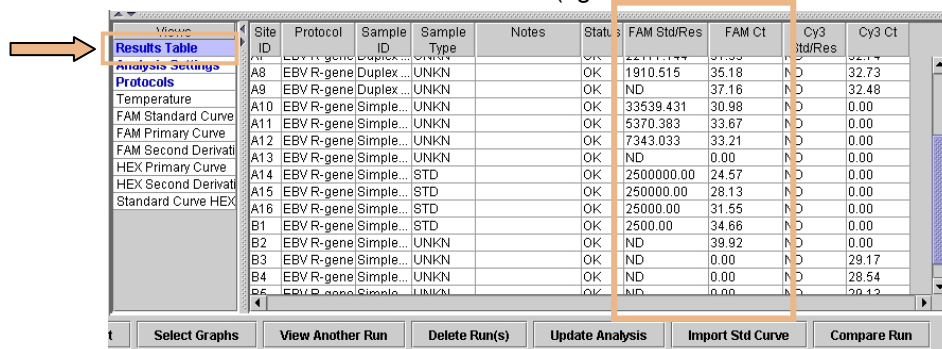

Fig.7
- At the end of the run click on **RESULT TABLE** in the **VIEWS** section (fig.7).
- A calculated concentration is displayed for each tube in the column titled **FAM STD/RES** (fig.7).